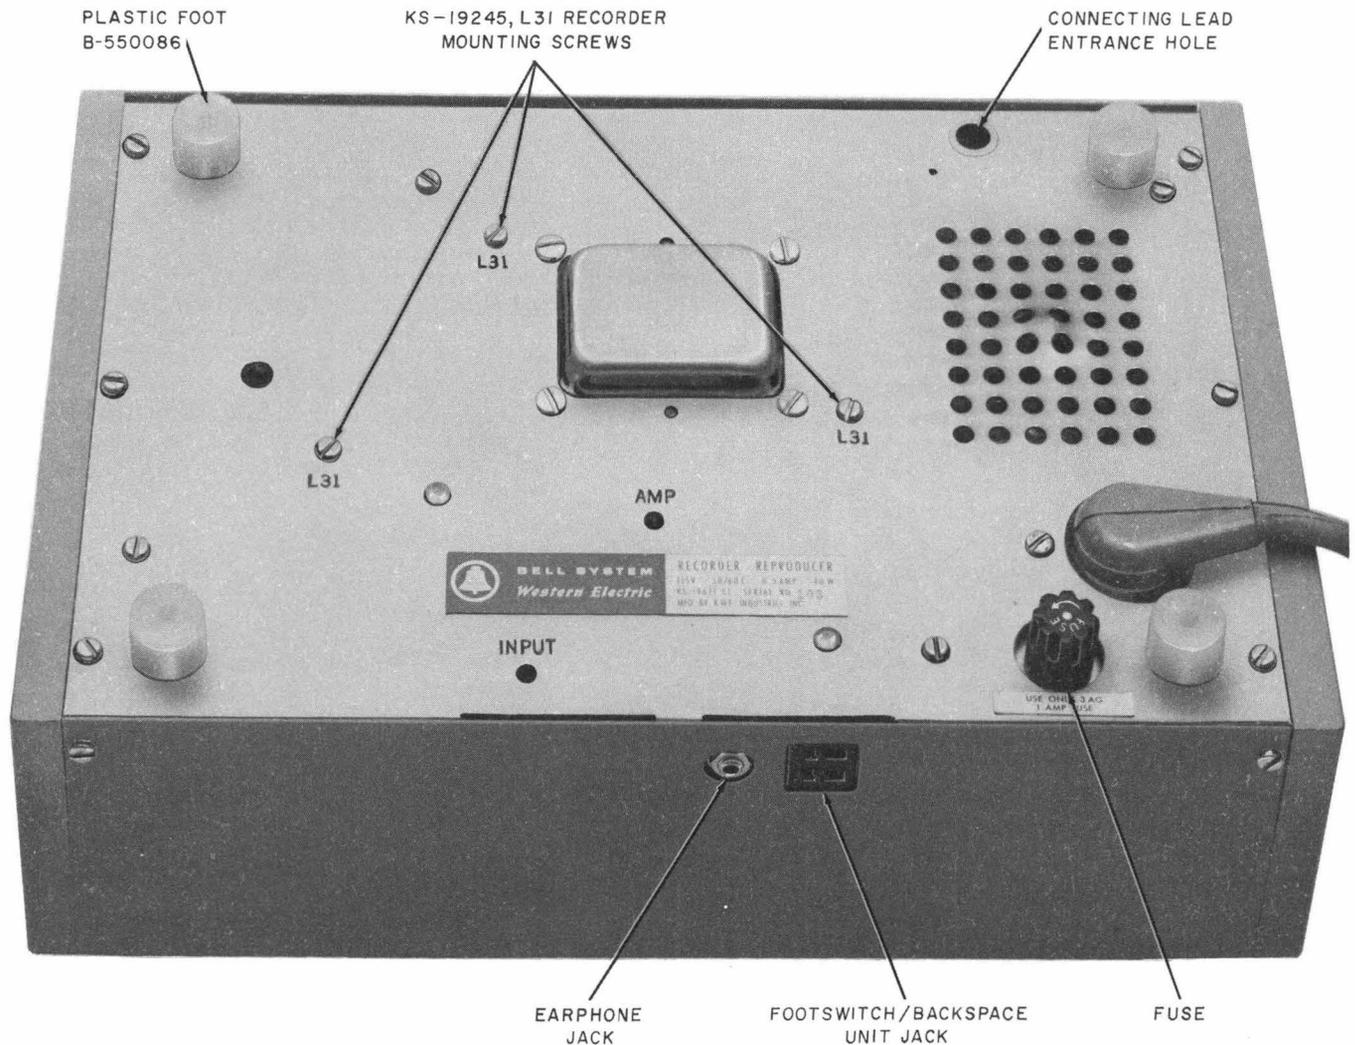

Fig. 3 — KS-19671 L1 Recorder-Reproducer, Bottom View
- (4) Turn cartridge hub clockwise by hand to rewind remaining tape into cartridge.
- (5) Remove cartridge.
- (e) Turn unit upside down and remove mounting screws on bottom of set (Fig. 3) and remove recorder by carefully withdrawing from plug-in receptacle.